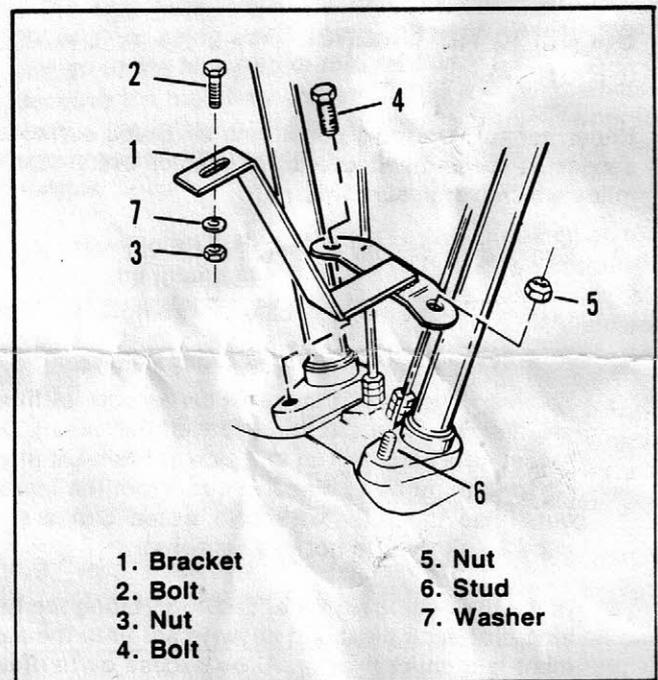

Figure 4. Bracket Mounting — XL Models
- A. XL Vehicles-See Figure 4. Remove nut (5) and bolt (4) at the tappet guide blocks. Place bracket (1) over stud (6) and align holes at adjacent tappet guide block. Thread nut (5) on stud (6). Insert bolt (4) through bracket (1), through tappet guide block mounting hole and thread into tapped hole in crankcase. Insert bolt (2) through air cleaner cover; and through bracket (1). Place washer (7) on bolt (2) and thread on nut (3). Tighten bolt (4), and nut (5) to a torque of 8-10 ft. lbs. Tighten nut (3) to a torque of 6 ft. lbs.